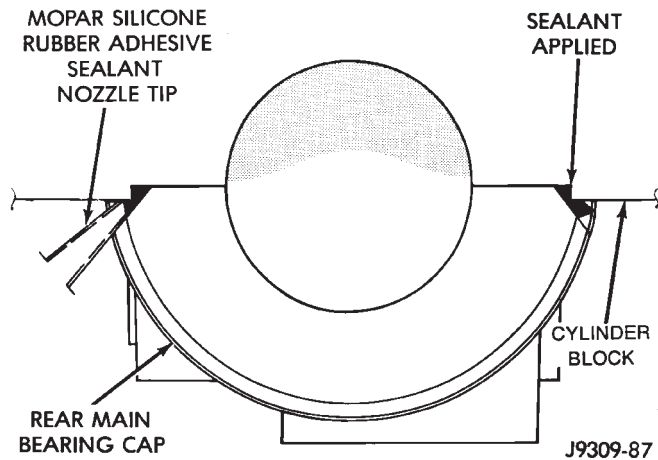

Fig. 41 Apply Sealant to Bearing Cap-to-Block Joint
(10) Apply Mopar Silicone Rubber Adhesive Sealant, or equivalent, at bearing cap-to-block joint to provide cap-to-block and oil pan sealing (Fig. 41). Apply enough sealant so that a small amount is squeezed out. Withdraw nozzle and wipe excess sealant off the oil pan seal groove.
(11) Install new front crankshaft oil seal.
(12) Immediately install the oil pan.